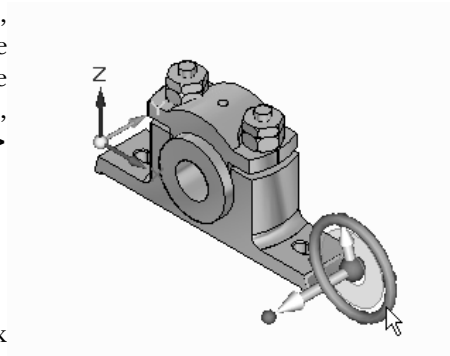

Figure 12-52 *Rotating the face of the base component*
- Remove the taper of the base component, refer to Figure 12-52.
1. Select the tapered face of the base component, as shown in Figure 12-52; the steering wheel, the **QuickBar**, and **Live Rules** are displayed for the selected face. Remember that to select the face, you need to choose **Home > Selection Filters > Smart Priority > Faces** from the **Ribbon**.
2. Move the steering wheel to the edge of the tapered face, as shown in Figure 12-52.